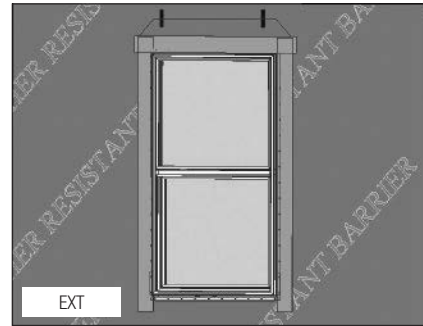

FIG. 13
- Cut and apply head flashing. The head flashing should run slightly past the edge of the side flashing as shown. (Fig. 13)